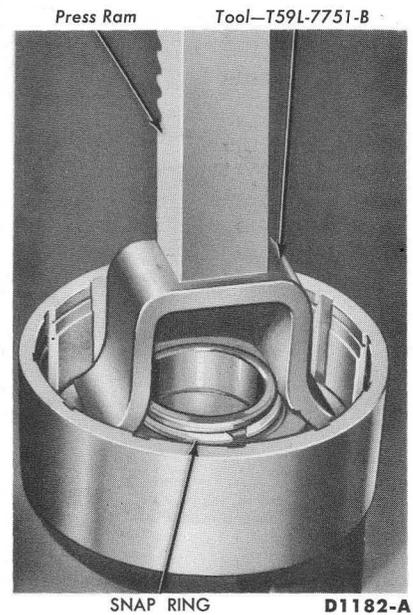

FIG. 11—Clutch Spring Snap Ring Removal
3. Place the tool shown in Fig. 11 on the clutch piston return spring retainer, and then place the clutch
11. Place the clutch piston return spring and spring retainer on the piston. Place the clutch drum under a press (Fig. 11) and install the spring retainer snap ring.